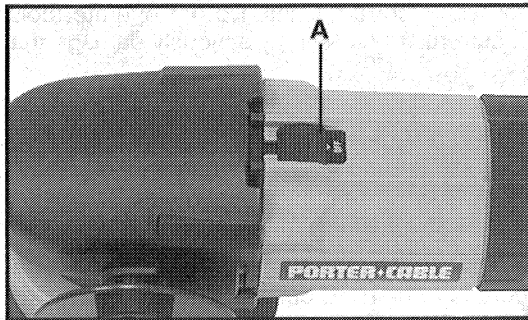

Fig. 1
3. Slide the switch button (A), Fig. 1, forward to start motor. Slide switch button rearward to stop motor.